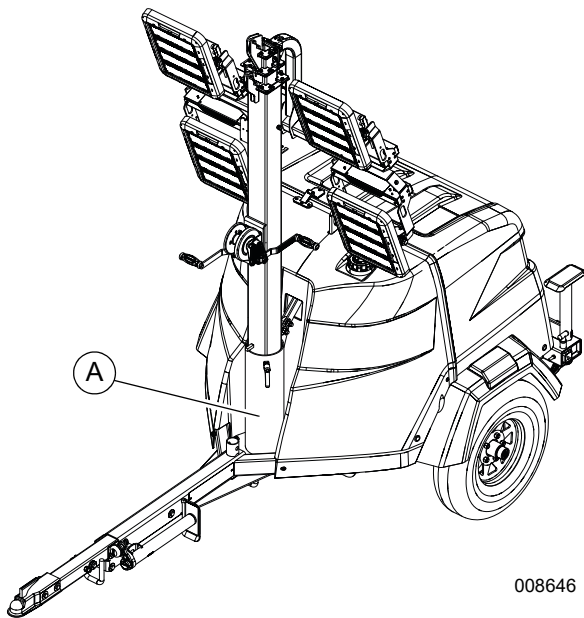

Figure 3-13. Dusk to Dawn Sensor
See **Figure 3-13**. If equipped with the Power Zone-DLA controller, this unit includes a “dusk to dawn” nightwatchman sensor (A) to detect the surrounding light level, automatically starting the engine and turning the lights on at dusk. The engine will run and the lights will remain illuminated until dawn.